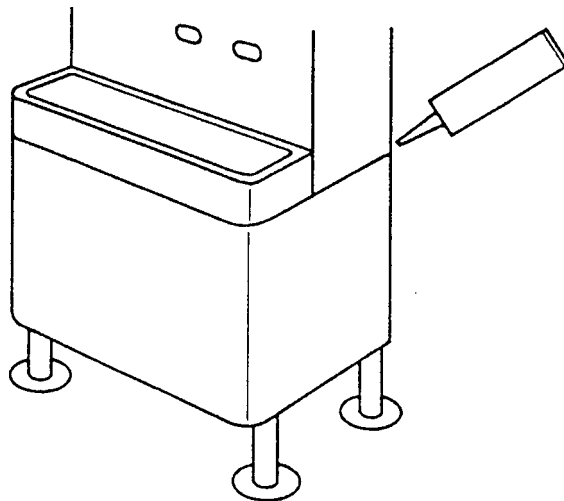

Fig. 1
6. Seal the seam all around between the dispenser and the Cabinet Stand with food grade silicone. See Fig. 1